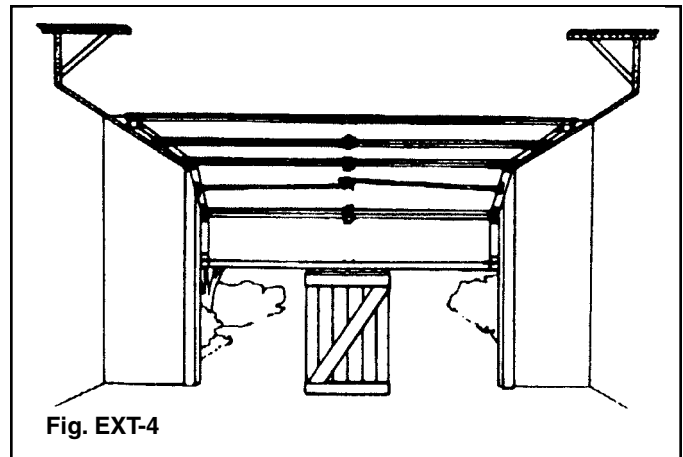

Fig. EXT-4
**Step 4:** Carefully raise the door and prop it about halfway open. (FIG. EXT-4)